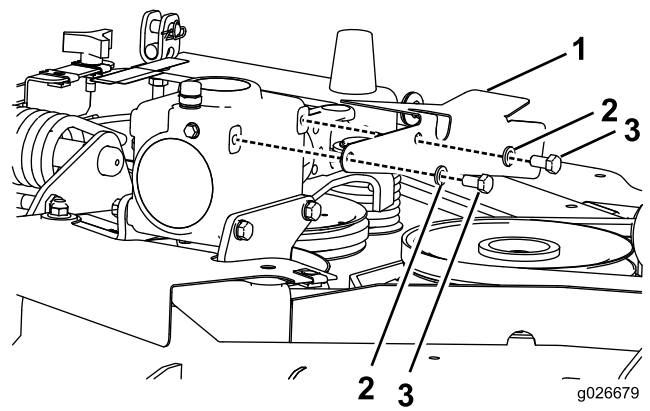

Figure 3
2. Position the drive shaft cover on the gear box as shown in Figure 3.